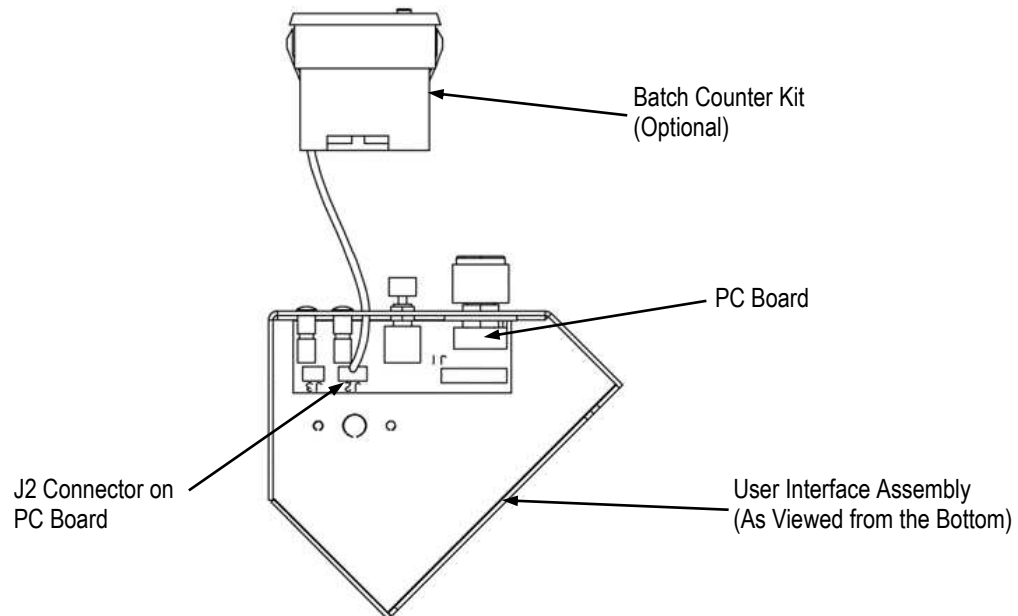
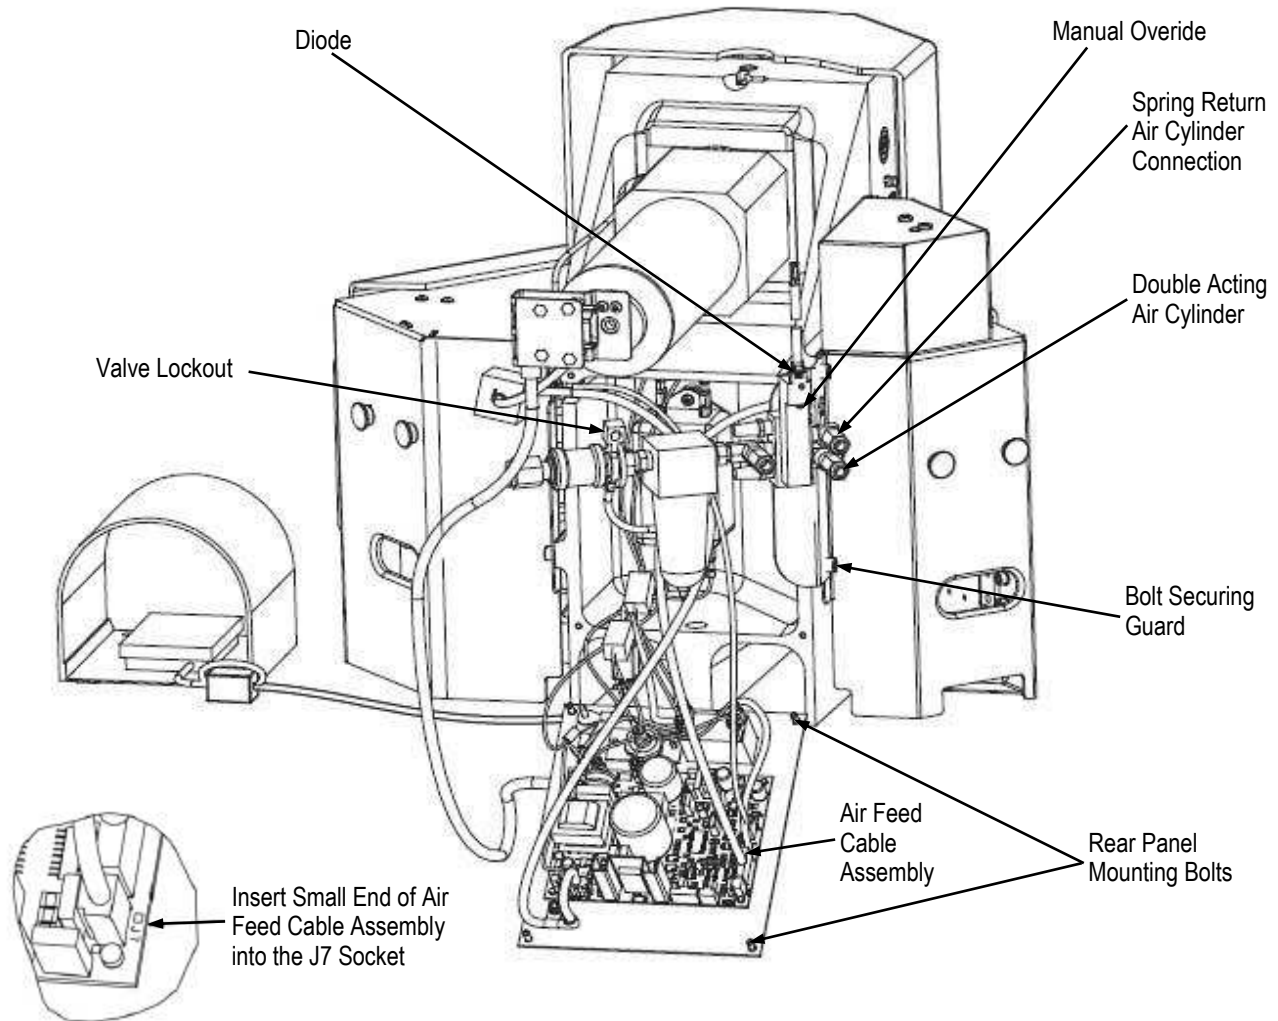

Figure 19
Figure 20
6. Plug the batch counter connector into the J2 connector on the user interface assembly pc board. See Figure 19.
1. Remove the four bolts securing the rear controller panel to the frame. Refer to Figure 20.
3. Insert the small end of the air feed cable assembly (see Customer Drawing 1424266) into the J7 socket. See Figure 20.
4. Install the control panel into the machine with the air feed cable assembly through the upper right hand slot in the machine frame. See Figure 20.
- Revised original Figure 19 (now 20) callouts and replaced original Figure 20 (now 21)